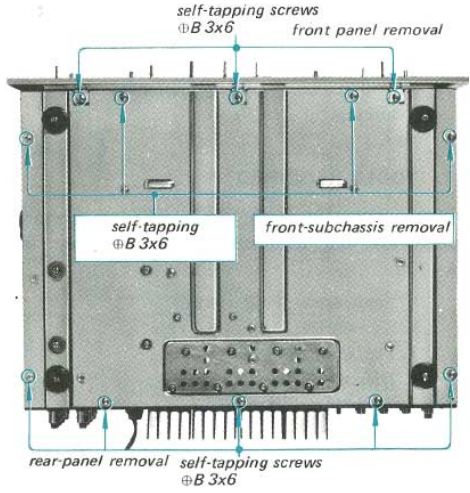
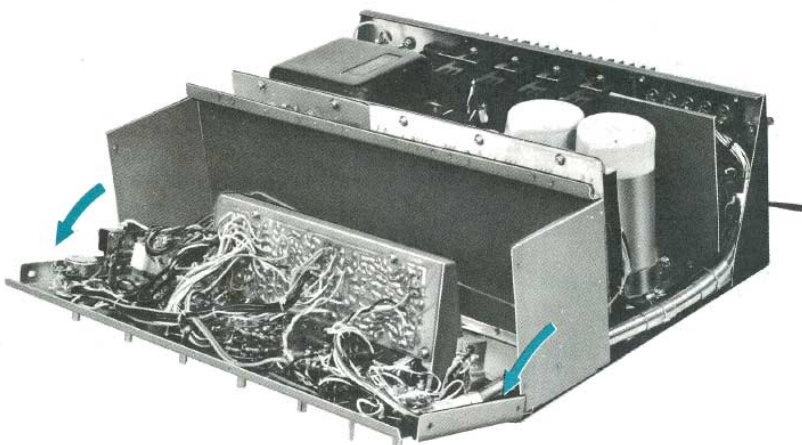
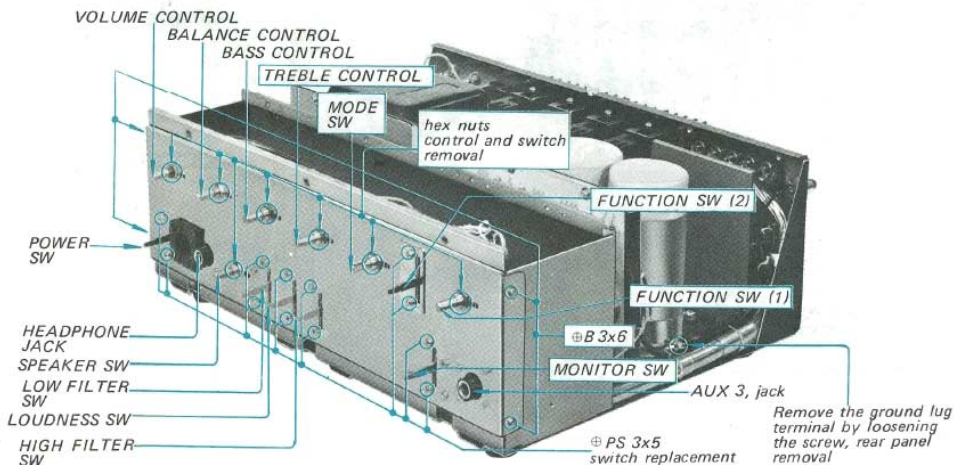
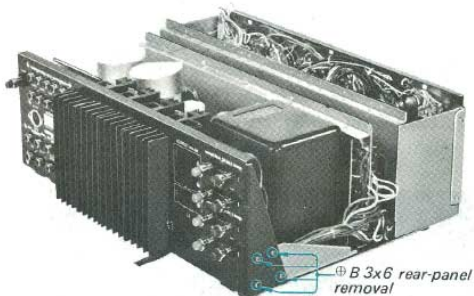

Fig. 2-3 Bottom view
Fig. 2-4 Front subchassis removal
Fig. 2-5 Control and switch replacement
Fig. 2-6 Rear panel removal
4. Remove the three self-tapping screws (+B 3x6) at the front bottom of the chassis as shown in Fig. 2-3. This frees the front panel.
- 2. Remove the two screws (@ B 3x6) at each side of the chassis (see Fig. 2-5) and four self-tapping screws (@ B 3x6) at the front bottom of the chassis as shown in Fig. 2-3. This frees front subchassis as shown in Fig. 2-4.
1. Remove the two screws (\oplus PS 3x5) securing switches to the front subchassis as shown in Fig. 2-5.
1. Remove the hex nuts that secure the switches or controls to the front subchassis as shown in Fig. 2-5.
2. Remove the four screws (\oplus B 3x6) at each side of the chassis (see Fig. 2-6) and five self-tapping screws (\oplus B 3x6) at the rear bottom of the chassis as shown in Fig. 2-3.
4. Remove the ground lug terminal by loosening the screw securing the electrolytic capacitor (C923) bracket to the chassis as shown in Fig. 2-5.